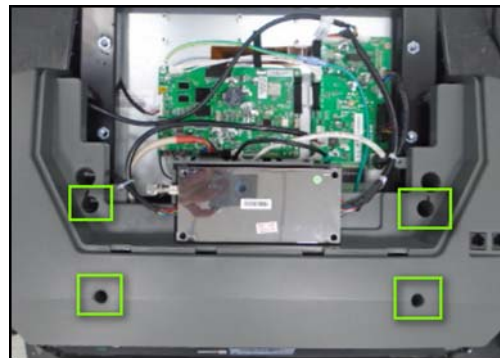

Fig2
2. Loosen the 4 bolts from console center area & remove case and console base (Fig2)